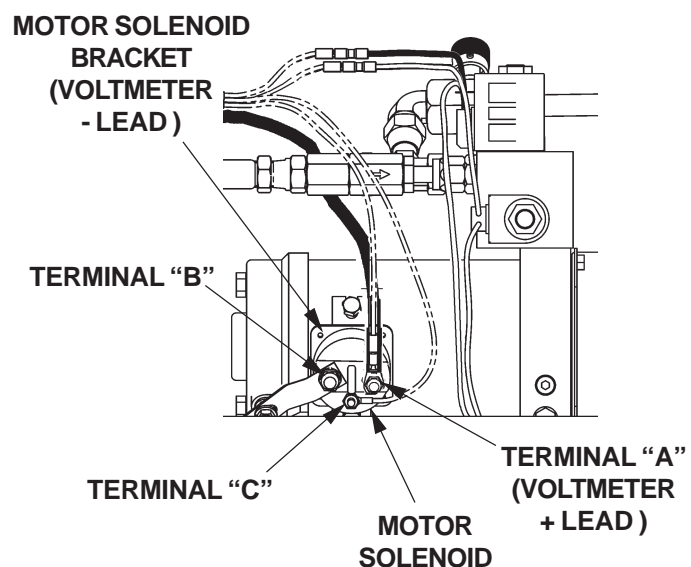

FIG. 41-1
1. Connect voltmeter between Motor Solenoid Terminal “A” and Bracket (**FIG. 41-1**) to verify that battery power is getting to “A”. Recharge the battery if voltmeter indicates less than 12.6 Volts DC.
3. Touch a jumper wire to terminals “A” & “C” (**FIG. 41-1**). If motor runs check Switch, the switch connections, and White wire. Check and correct wiring connections or replace the Switch.
4. Touch heavy jumper cables to terminals “A” & “B” (**FIG. 41-1**).